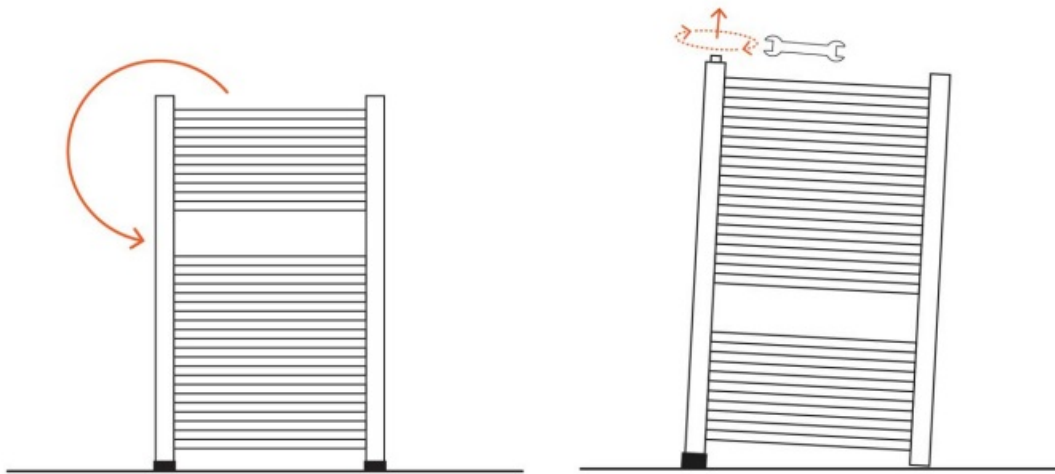

Figure 3 | Inlet tilted to its highest point before opening..
3. Tilt the towel rail until the fitting location is at the highest point, as shown in Figure 3. This prevents any fluid escaping if your towel rail is pre-filled.